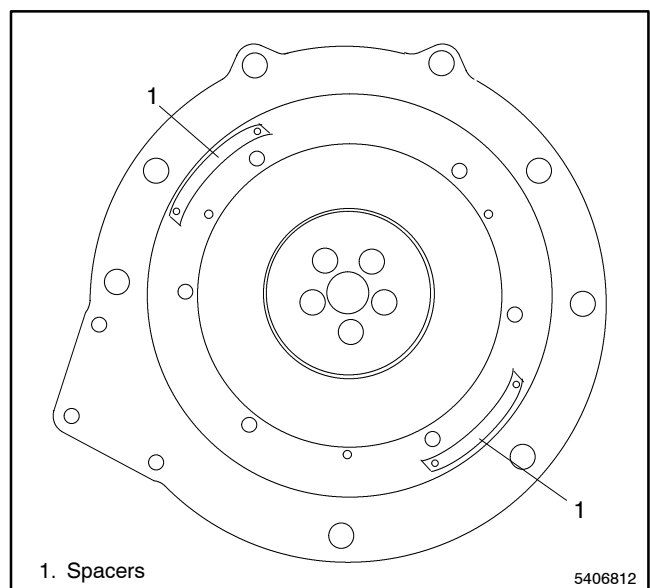

Figure 6-12 Engine Flywheel and Spacers
23. Remove six bolts securing remaining drive disc to flywheel. Note position of spacers before removing drive disc. See Figure 6-12.